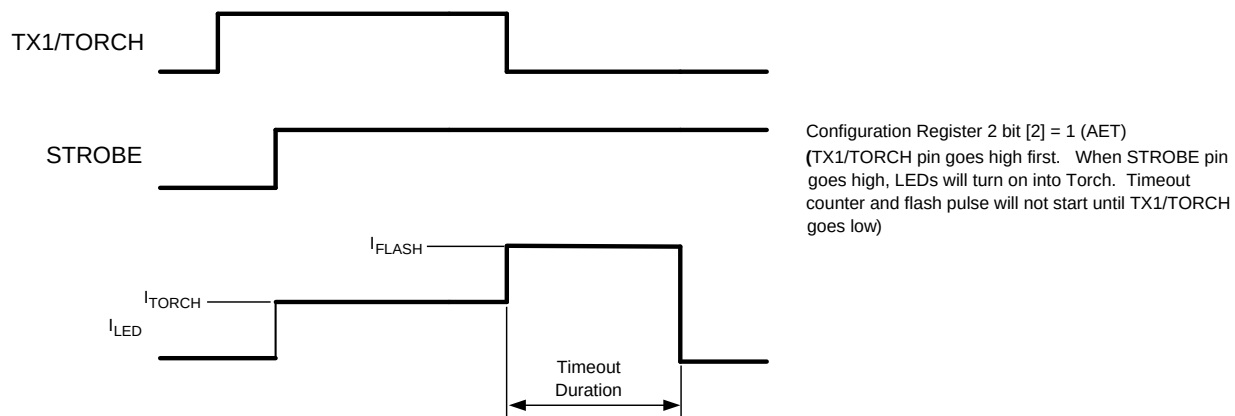
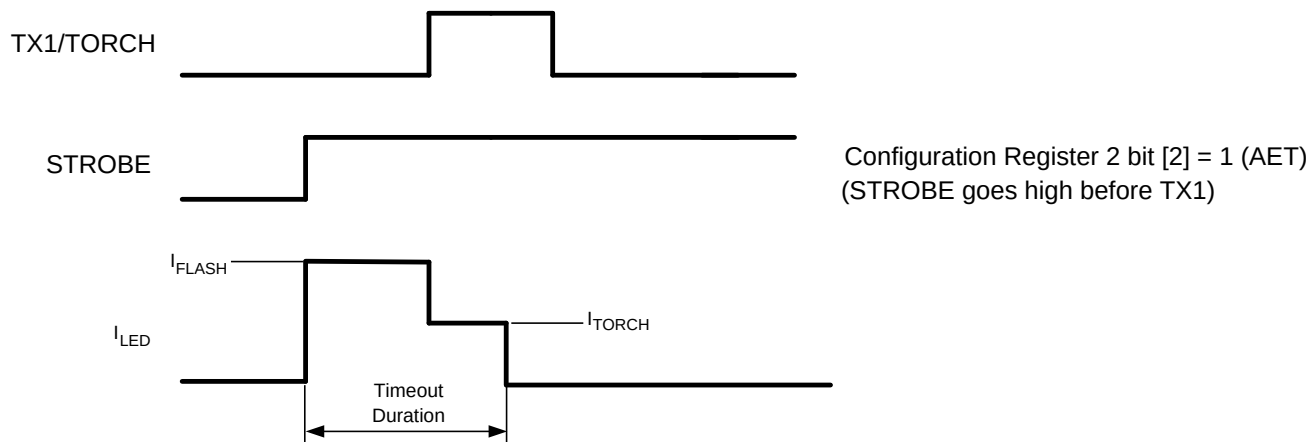

Figure 35. Alternative External Torch Mode (TX1/Torch Turns on Before Strobe)
**Figure 36. Alternative External Torch Mode
With Configuration Register 2 bit [2] set to (1) the operation of TX1/TORCH becomes dependent on its occurrence relative to STROBE. In this mode if TX1/TORCH goes high first, then STROBE goes high, the LEDs are forced into torch mode with no timeout. In this mode if TX1/TORCH goes high after STROBE has gone high then the TX1/TORCH pin operates as a normal TX interrupt, and the LEDs turn off at the end of the timeout duration. (See LM3554 Timing Diagrams, Figure 35, and Figure 36.)